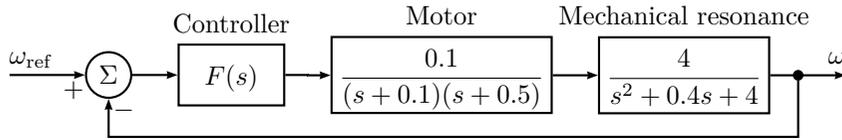

Figure 5.1a
5.1 The block diagram for speed control of a DC-motor is shown in Figure 5.1a. Find a compensator $F(s)$ such that the following specifications are fulfilled.